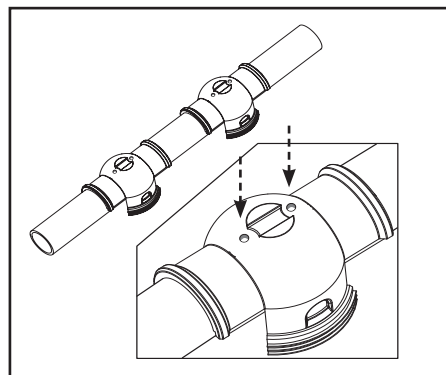

Figure 7. Marking Pipe for Drilling Feeder Holes
6. Invert the lower clamps and place on the pipe. Mark the pipe for drilling the feeder holes (see Figure 7).